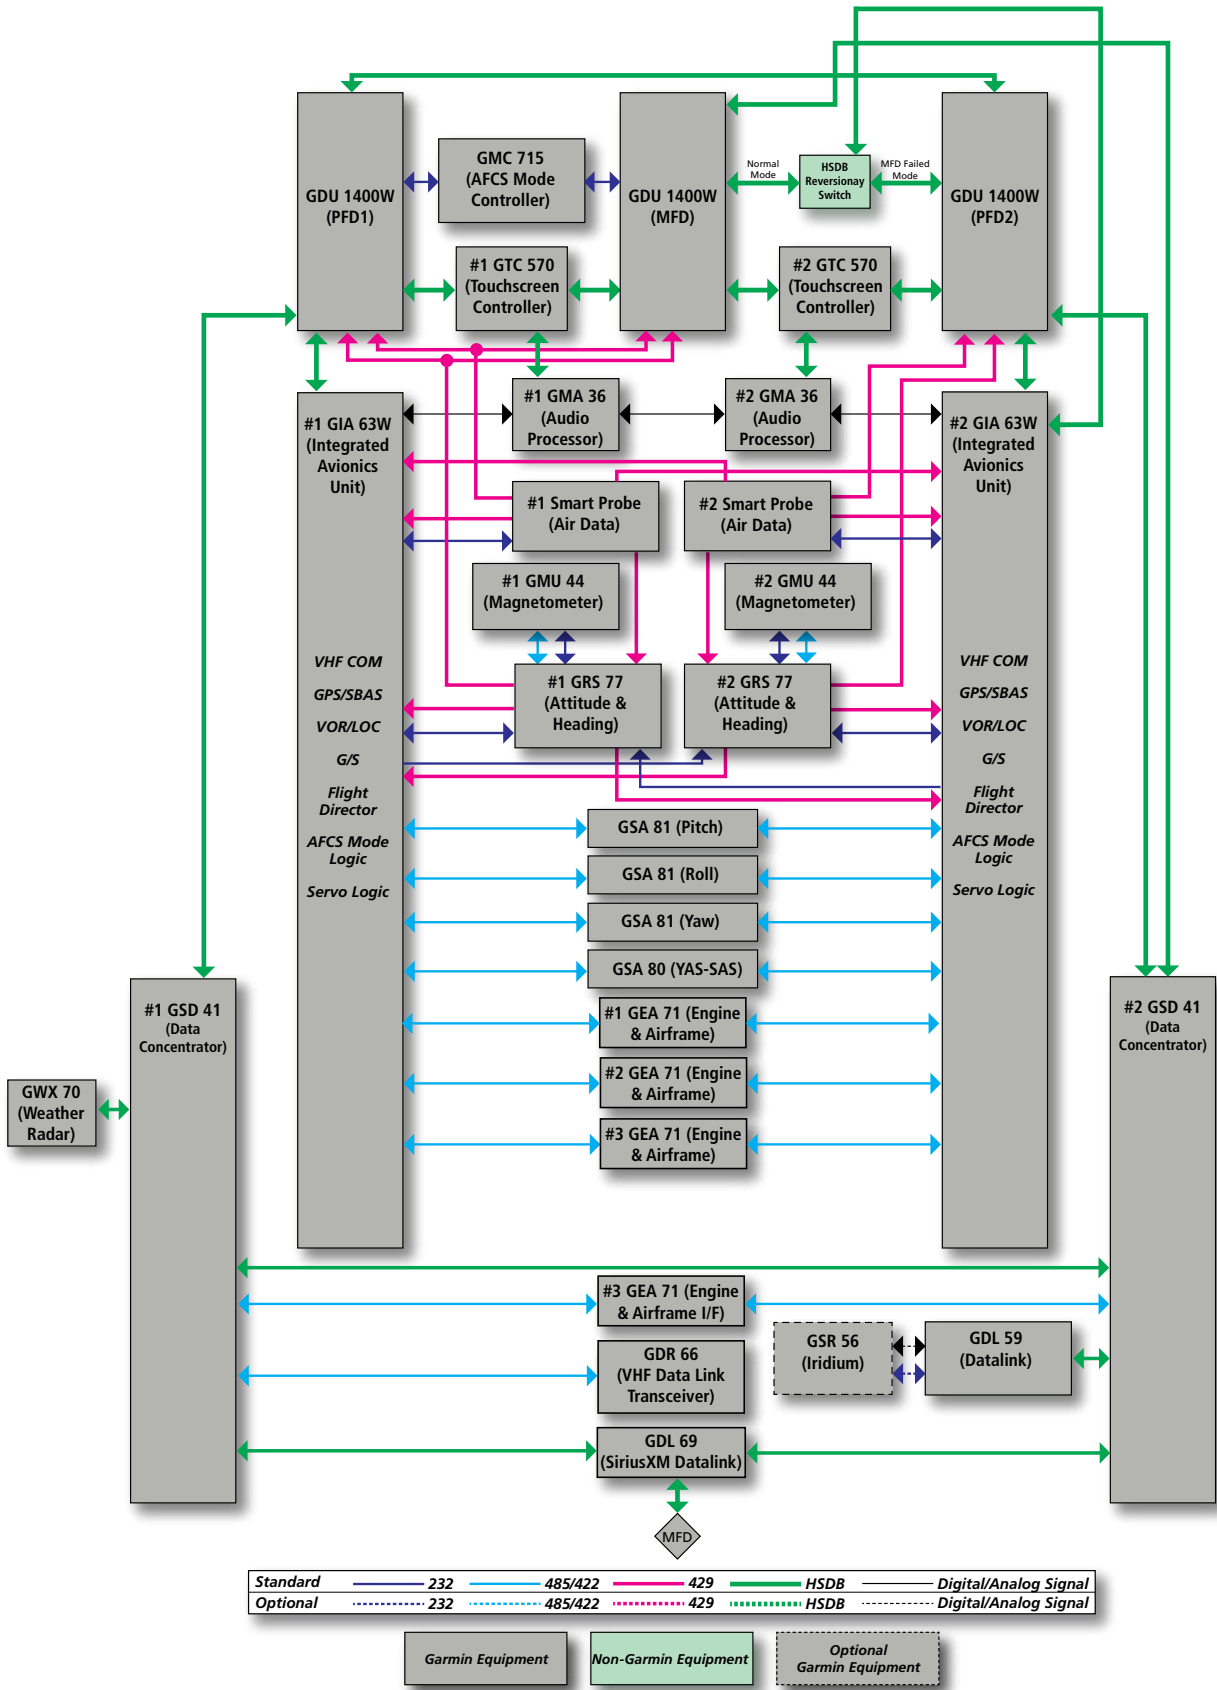

Figure 1-1 Basic System Block Diagram
- **GDU 1400W** (3) – Each GDU is configured as one of two Primary Flight Displays (PFDs) or one Multi-function Display (MFD). The GDU 1400W features a 14-inch light emitting diode (LED) backlit widescreen display with a 1280 x 800 resolution. The unit installed on the left/pilot side is designated as PFD1, and the one installed on the right/copilot side is designated as PFD2. The unit installed in the center is designated as the MFD. The displays communicate with each other, the Touchscreen Controllers, and with the on-side GIA 63W Integrated Avionics Unit (IAU) through a High-Speed Data Bus (HSDB) Ethernet connection.
- **GTC 570** (2) – The Touchscreen Controller provides MFD control, Multi-function Window (MFW) control on the PFD, in addition to FMS functions, data entry capability, and communications control to the system. The unit installed on the left/pilot side is designated as GTC1, and the one installed on the right/copilot side is designated as GTC2. Each touchscreen controller communicates with the on-side PFD in addition to the MFD using an HDSB connection.
- **GMA 36** (2) – The Remote Audio Unit integrates navigation/communication radio (NAV/COM) digital audio, intercom, and marker beacon audio. Each unit is connected to the on-side Touchscreen Controller using an HSDB interface and to the cross-side IAU using an RS-232 connection as a backup path. Each GMA 36 is also connected to the Cockpit Voice Recorder (CVR) using a digital/analog connection.
- **GIA 63W** (2) – The Integrated Avionics Units (IAU) function as the main communications hub, linking several LRUs with each on-side PFD. Each IAU contains a GPS Satellite-Based Augmentation System (SBAS) receiver, a very high frequency (VHF) communication/navigation/glideslope (COM/NAV/GS) receiver, a flight director (FD) and system integration microprocessors.
- **GEA 71** (3) – The Engine Airframe Unit receives and processes signals from the engine and airframe sensors. This unit communicates with both IAUs using an RS-485 digital interface.
- **GSD 41** (2) – This unit is a data concentrator used to expand the input and output capabilities of the system. HSDB communications occur among Garmin LRUs. The ARINC 429 protocol connects non-Garmin LRUs as shown in Figure 1-1.
- **GRS 77** (2) – The Attitude and Heading Reference System (AHRS) provides aircraft attitude and heading information via ARINC 429 protocol to the on-side and cross-side IAU, the on-side PFD, and to the MFD. An RS-232 backup path connects each AHRS to each IAU. The AHRS contains advanced sensors (including accelerometers and rate sensors) and interfaces with the Magnetometer to obtain magnetic field information, with the ADC to obtain air data, and with both IAUs to obtain GPS information. AHRS operation is discussed in System Operation, later in this section.
- **GMU 44** (2) – The Magnetometer measures local magnetic field and sends data to the AHRS for processing to determine aircraft magnetic heading. The magnetometer receives power directly from the AHRS and communicates with it via an RS-485/422 and RS-232 digital interface.
- **GDR 66** (1) – The VHF Data Link Transceiver is a transceiver for sending and receiving Controller Pilot Data Link Communications (CPDLC) messages by using the Touchscreen Controllers. It also supports analog voice communications. It communicates with the #1 GSD 41 unit using an RS-485/422 interface.
- **GSA 80** (1) and **GSA 81** (3) – The GSA 80 Servo is used for automatic control of YAS-SAS. The GSA 81 Servos are used for automatic control of pitch, roll, and yaw. These units interface with each IAU using RS-482/422 connections.
- **GSM 86** (4) – The GSM 86 Servo Gearboxes are responsible for transferring the output torque of the servo actuators to the mechanical flight-control surface linkages.
- **GWX 70** (1) – Provides airborne weather and ground mapped radar data to the PFDs and to the MFD. The unit is connected to the #1 GSD via HSDB connection.
- **GDL 59** (1) – Provides a Wi-Fi datalink and System Data Logging capability. The unit is connected to the #2 GSD via HSDB, and to the optional GSR 56 Iridium Transceiver using an RS-232 bus and a digital/analog connection.
- **GSR 56** (1) – The Iridium Transceiver provides voice communications by means of a telephone handset in the cabin and pilot and copilot headsets in the cockpit. The transceiver can also send and receive short message service (SMS) text messages. The GSR 56 also receives data link weather products from the Garmin Connex weather service through the Iridium satellite network. The transceiver can also send and receive data provided by the GDL 59 through the RS-232 bus.
Figure 1-1 shows interconnection of the LRUs.
NOTE: For information on optional equipment not shown in Figure 1-1, consult the applicable optional interface user's guide. This document assumes that the reader is already familiar with the operation of this additional equipment